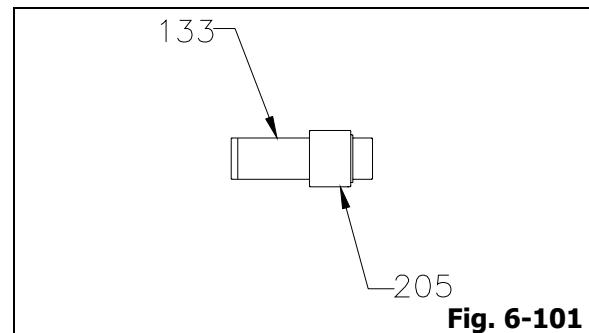

Fig. 6-101
7. For atmospheric end mechanical seal (205) furnish with jam nuts, where abutment ring (463) is not available, coat
shaft sleeve (133) surface with oil, slide the rotary portion of atmospheric end mechanical seal (205) carefully onto shaft sleeve (133) by hand until the end of the mechanical seal (205) reach the mechanical seal location marking which has been made on shaft sleeve (133) during disassembly, and screw in mechanical seal jam nuts (Fig. 6-101).